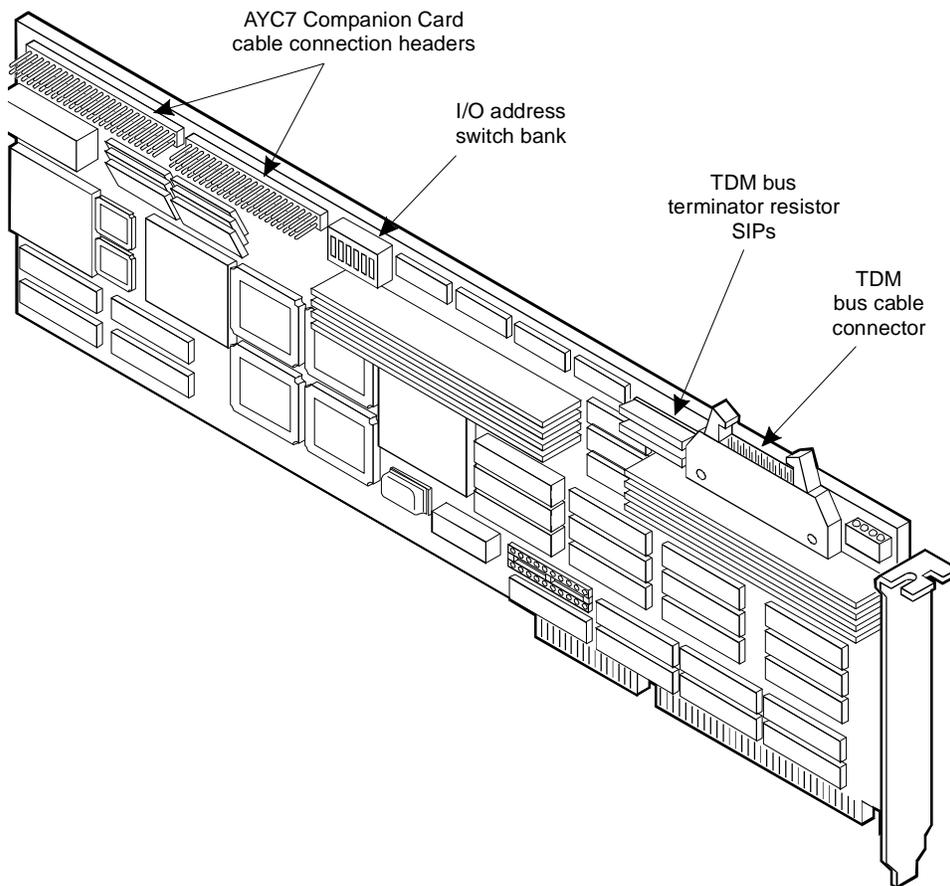
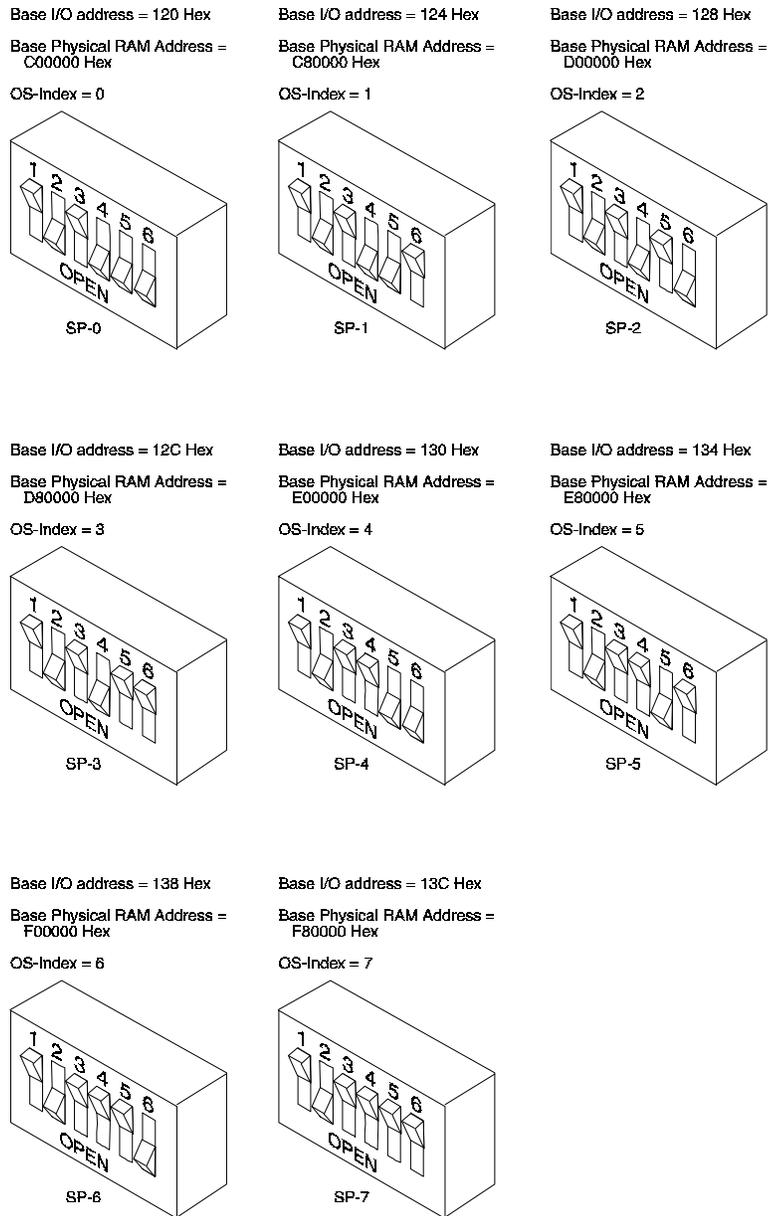

Figure 7-7. Signal Processor (AYC2C or AYC9) Circuit Card
Figure 7-8. Switch Settings for the Signal Processor Circuit Cards (AYC2C and AYC9), SP-0 through SP-7
This section lists the types of Signal Processor (SP) cards (Figure 7-7) you can install in the MAP/100 and describes how to set their resource options and place them in the backplane.
You must set one bank of switches on the SP circuit card. See Figure 7-7 for the location of the switch bank and Figure 7-8 for the correct I/O address switch settings for SP-0 through SP-7.
Notice in Figure 7-8 that the switches are numbered one (1) through six (6). Switch 1 is a no-option switch. This means its setting is not significant. The figure shows this switch as open, but it does not matter if it is open or closed. Switch 2 must be closed. Switch 3 must be open. Each figure also displays the OS index number for the corresponding switch settings. The Intuity CONVERSANT VIS uses this index to identify each SP card.